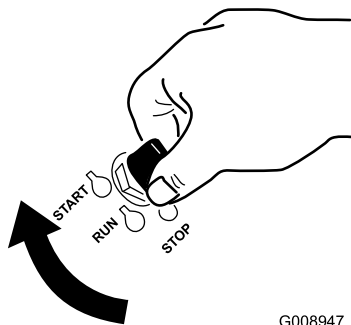

Figure 17
1. Turn the ignition key to the START position (Figure 17). When the engine starts, release the key.